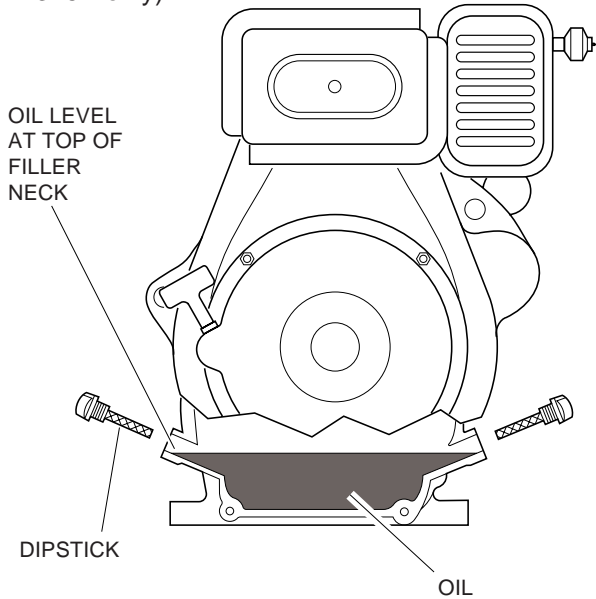

Figure 7 - Checking Oil Level
1. Remove either dipstick (see Figure 7). Wipe dipstick clean.
3. If level is low, fill to top of oil filler neck (see Figure 7).